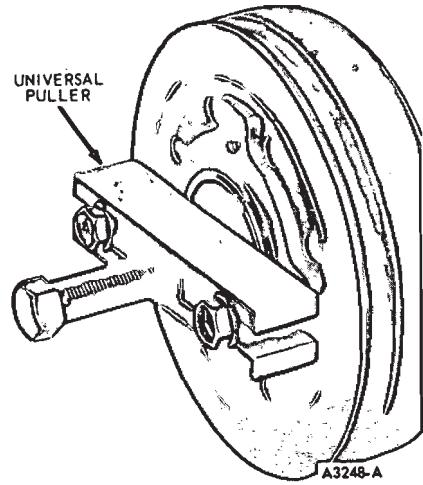
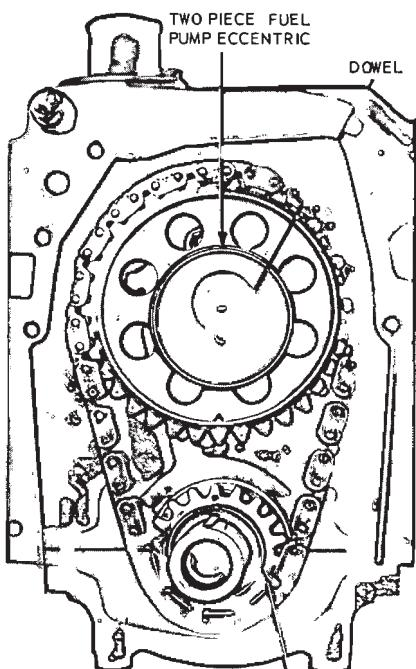

FIG. 20—Removing Crankshaft Vibration Damper
FIG. 26—Fuel Pump Eccentric and Front Oil Slinger Installed
4. Remove the crankshaft pulley from the vibration damper. Remove the damper attaching screw and washer. Install the puller on the crankshaft vibration damper (Fig. 20) and remove the vibration damper.
er. Remove the vibration damper attaching screw. Install the puller on the crankshaft vibration damper (Fig. 20) and remove the vibration damper.
1. Position the sprockets and timing chain on the camshaft and crankshaft (Fig. 26). Be sure the timing marks on the sprockets are positioned as shown in Fig. 20.
Install the crankshaft front oil slinger (Fig. 26).